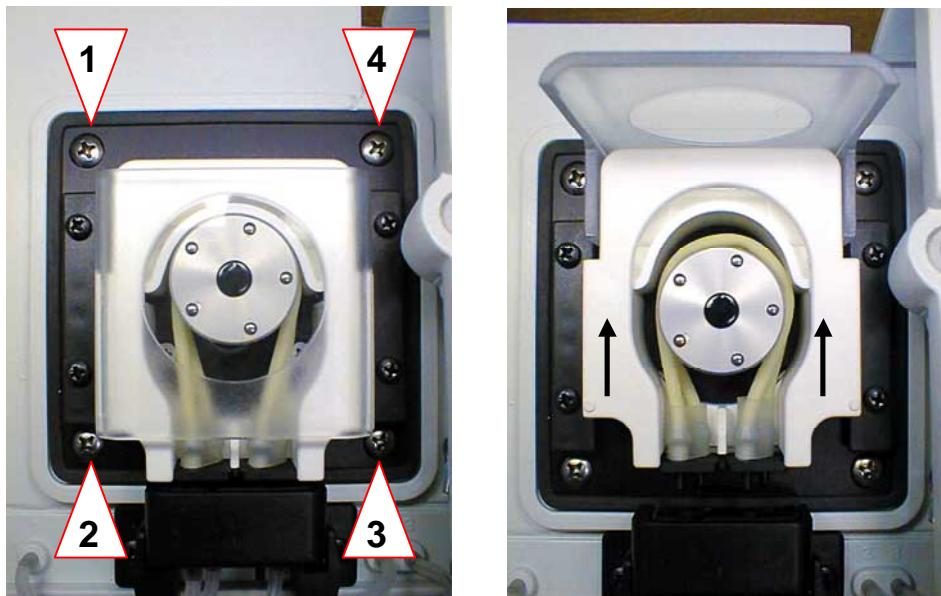

Fig. 3-35 Peristaltic pump
4. Open the tension lever (translucent cover) of the peristaltic pump and push the linear clamp (white plastic part) upwards (see Fig. 3-35).
6. Open the mounting screws of the peristaltic pump (see Fig. 3-35, 1 to 4) and take out the pump.
3. Open the tension lever (translucent cover) of the peristaltic pump and push the linear clamp (white plastic part) upwards (see Fig. 3-35 on page 3-24).